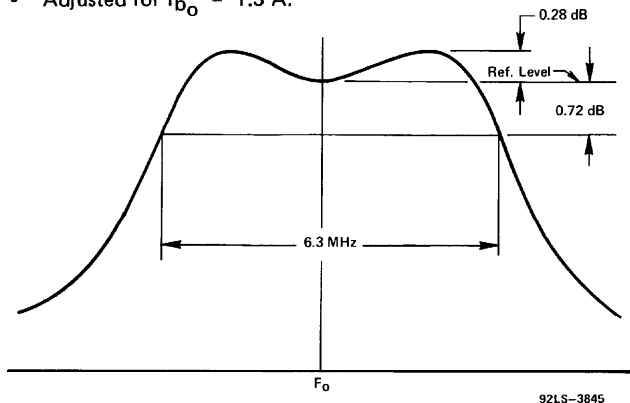

Figure 3 - Bandwidth Calculation
11. The bandwidth of 6.3 MHz is calculated at the -0.72 dB power points of a double tuned output circuit using two times the tube output capacity and a damping factor of $\sqrt{1.5}$ as shown in Figure 3.